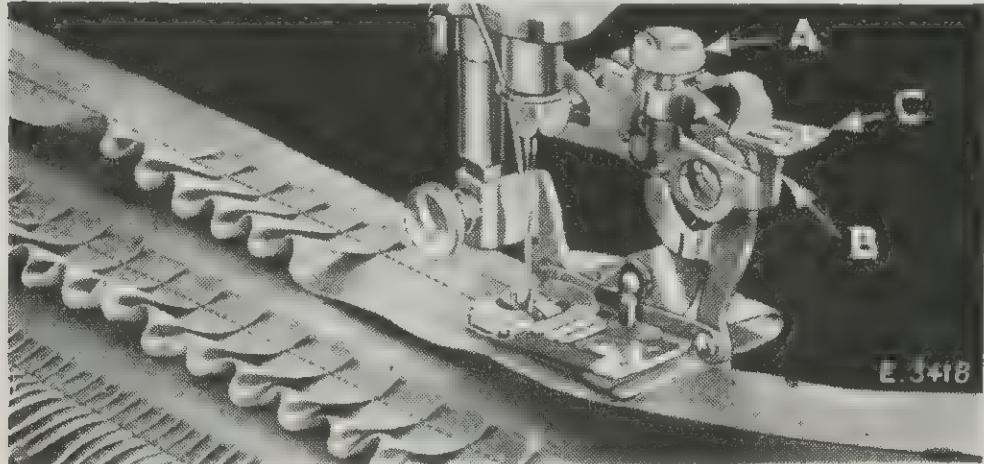

FIG. 35
**To omit gathers or plaits,** raise the adjusting lever (C, Fig. 35) and move it until the end of the
projection (B, Fig. 35) enters the small depression directly under the star on the adjusting lever (C). As long as the adjusting lever rests on the projection, the ruffling blade will remain inoperative.
**To make the gathers or plaits in groups,** adjust the ruffler for five stitch ruffling, having as many plaits in each group as desired, then adjust the ruffler to omit making the gathers or plaits. When the desired space has been made, adjust the ruffler back to five stitch ruffling again. By alternately making groups of plaits and plain spaces as shown in Fig. 35, very attractive work can be produced.